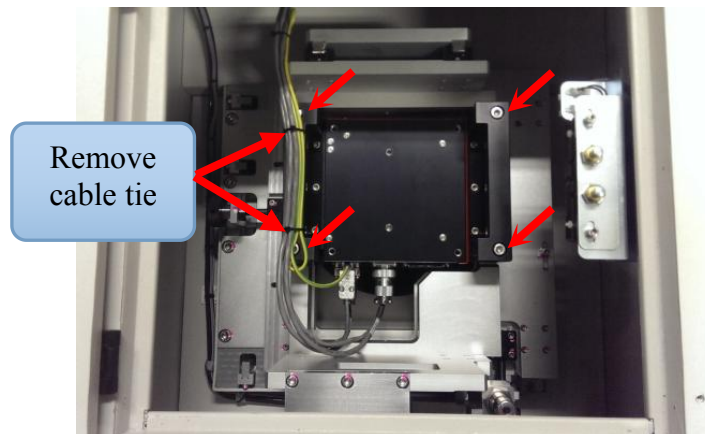

Figure 4
5. Remove cable ties and unscrew and remove SHCS M6×60 (4x) as Figure 4.